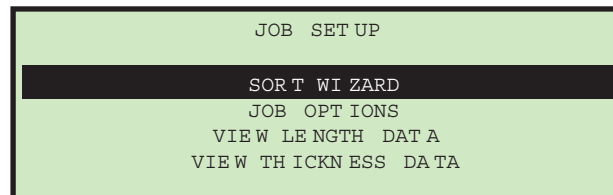

Figure 30: Job Setup screen
2. Use the Arrow keys to choose a job, and press Enter to select the job. The job will be deleted, and the display will return to the JOB MENU screen. The JOB SETUP screen will be displayed (Figure 30).
1. From the Supervisor > Job Setup screen (Figure 30), select SORT WIZARD, and press Enter. The sort wizard will start out by asking three questions that must be answered. The first asks if you want to sort on thickness as shown below.